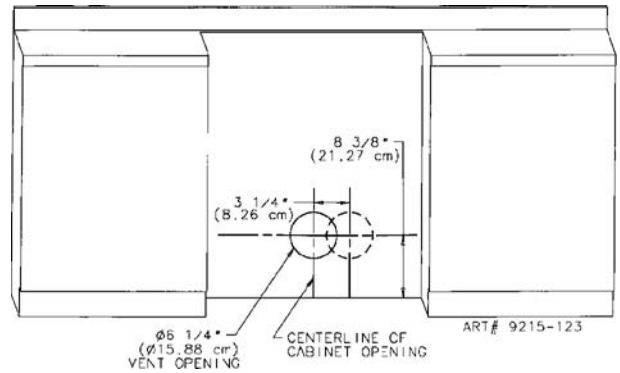

Figure 10
- a. **Through the rear wall.** (See figure 10) Mark the centerline of the cabinet opening on the rear wall. The 6 1/4" vent opening must be located on a centerline 8 3/8" above the floor and within 3 1/4" to the right (when facing the cabinet opening) of the centerline of the cabinet opening as shown in figure 10.